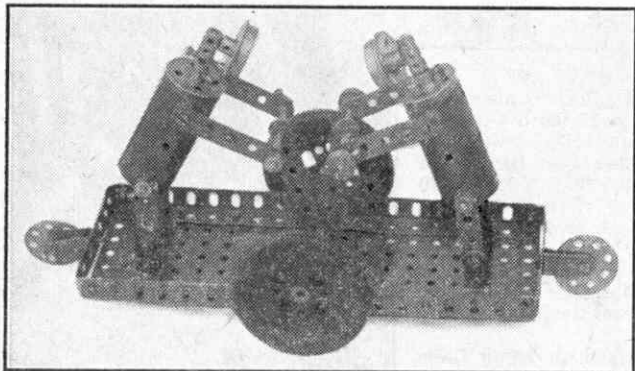
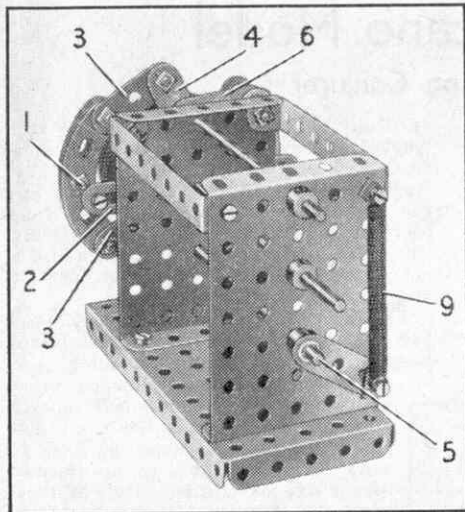
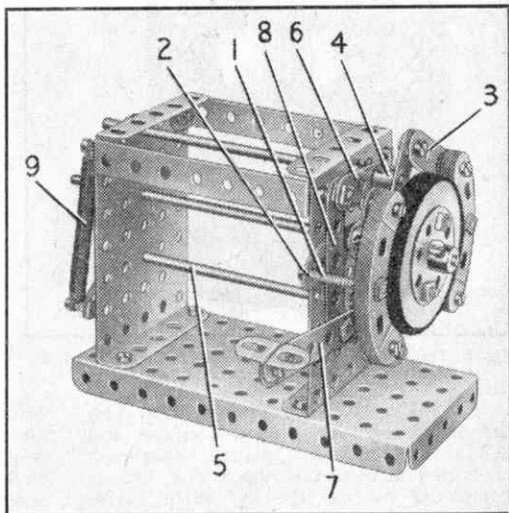

Fig. 2. This simple and amusing mechanical toy was designed by Eric Howell, Dronfield, Sheffield, and is described on this page.
Fig. 3. A powerful external contracting brake suitable for use in colliery winding engines and large cranes.
Fig. 4. Another view of the external contracting brake.
A Collar 18 (Fig. 4) supports the Gear 16, which is spaced by four Washers from the Double Arm Crank 19 fixed on Rod 17. A spider 20 taken from a Swivel Bearing, is bolted to one end of the Double Arm Crank as shown, and is fitted with two  $\frac{7}{32}$ " Grub Screws. Two Threaded Bosses 21, fitted with  $\frac{1}{2}$ " Bolts, are bolted to the Gear 16, and two Compression Springs are retained in position between the ends of the  $\frac{1}{2}$ " Bolts and Grub Screws.
The Socket Coupling that holds the boss of the  $2\frac{1}{2}$ " Face Plate is fastened to the top of Coupling 23, thus completing the link-up of the drive to the assembly 11 (Fig. 2) but leaving the Rod 24 free.
The drive to the off-set centre 9 (Fig. 2) is transmitted through the reduction gearing shown in Fig. 4 to the Rod 24. With this gearing
the off-set centre is driven at about one-fourth the speed of the assembly 11. A bearing to take the weight supported by Rod 24 is formed by a  $\frac{3}{4}$ " Flanged Wheel, which turns on the boss of a  $1\frac{1}{2}$ " Pulley bolted to the base (Fig. 4).
Young readers will be interested in the simple but amusing little model sent in by Eric Howell, Dronfield, Sheffield, that is shown in Fig. 2 at the foot of this page. It consists of two figures mounted on a wheeled carriage. When the carriage is pushed along the ground the figures are set in motion and appear to be bowing to each other in a really laughable way.
W. Johnstone, Liverpool, sends details of a powerful brake mechanism he designed for use in a large model of a colliery winding engine he built recently. The brake is based on the external contracting system, and is shown in Figs. 3 and 4. The large braking area of the shoes, and the linkage system employed to bring them into contact with the drum, provide a very powerful retarding effect, which can be further increased by fitting a length of adhesive tape over the drum as shown in Fig. 4.